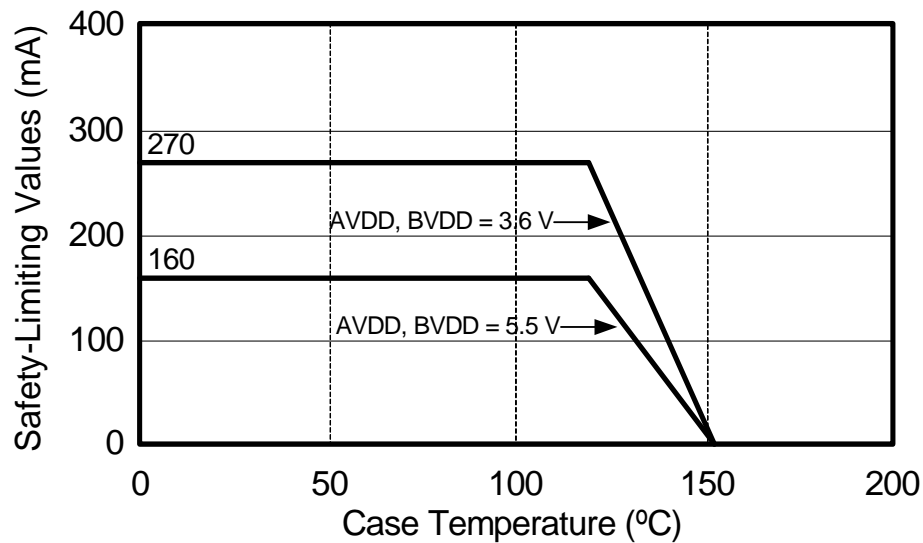
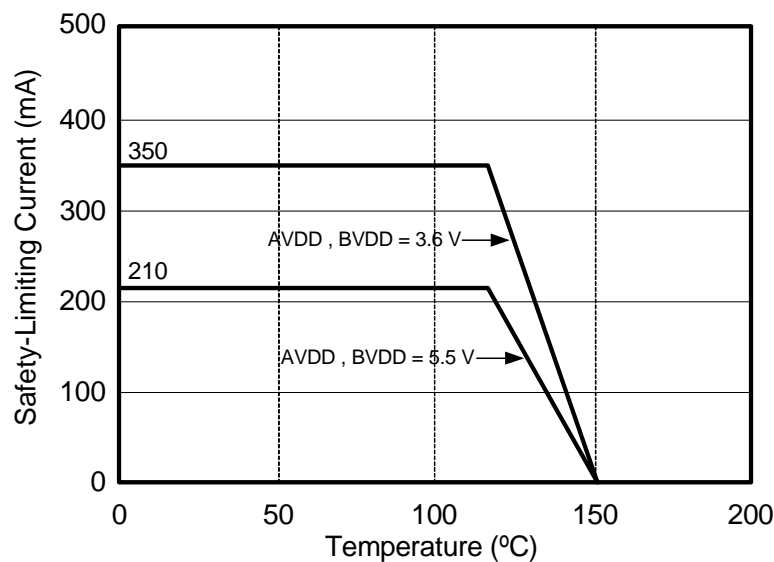

Figure 3. NB SOIC-8 Thermal Derating Curve, Dependence of Safety Limiting Values with Case Temperature per DIN EN 60747-5-2
Figure 4. NB SOIC-16 Thermal Derating Curve, Dependence of Safety Limiting Values with Case Temperature per DIN EN 60747-5-2
1. Maximum value allowed in the event of a failure. Refer to the thermal derating curve in Figure 3 and Figure 4.